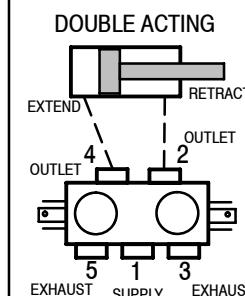

Figure 1
2. Outlet ports 2 & 4 must be connected to a device (double acting cylinder, gauge etc.,). 5 port is exhaust when 2 port is pressurized. 3 port is exhaust when 4 port is pressurized (see figure 1).